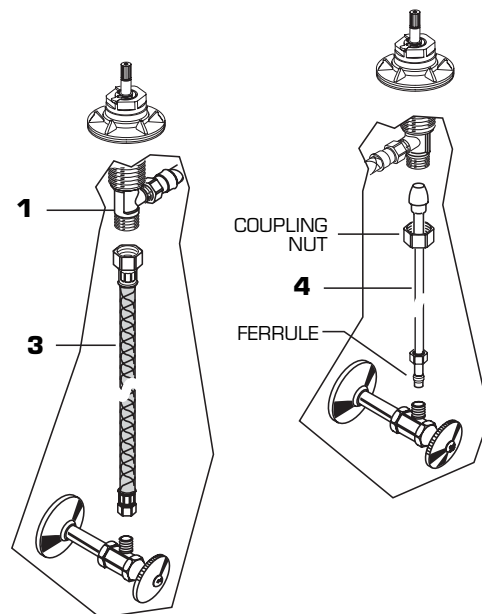

**FIGURE-4A**
- Assemble Pivot Rod **(9)** as shown in **Figure-4A**. Notice the position of the Concave Washer **(G)**.